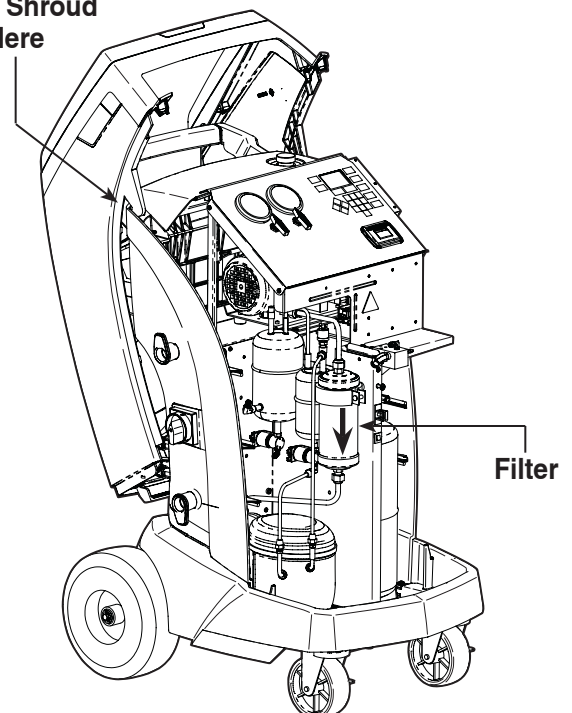

Figure 12
- Hang the shroud on the back of the machine as shown in Figure 12.